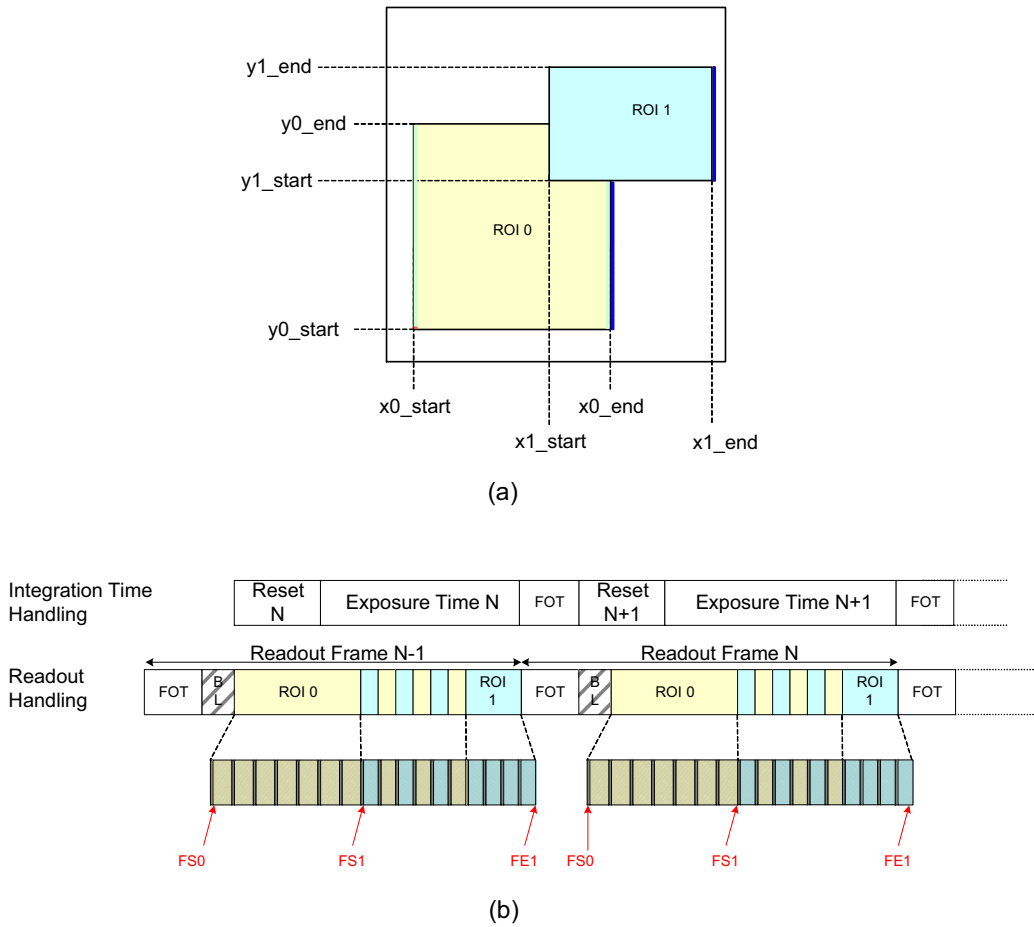

Figure 30. Frame Sync Codes
The frame format is explained by example of the readout of two (overlapping) windows, as shown in Figure 30 (a).
Figure 30 indicates that, after the FOT is complete, a number of lines which only include information of 'ROI 0' are sent out, starting at position  $y0\_start$ . When the line at position  $y1\_start$  is reached, a number of lines containing data of 'ROI 0' and 'ROI 1' are sent out, until the line position of  $y0\_end$  is reached. From there on, only data of 'ROI 1' appears on the data output channels until line position  $y1\_end$  is reached.
**NOTE:** Only frame start and frame end sync words are indicated in (b). CRC codes are also omitted from Figure 30.